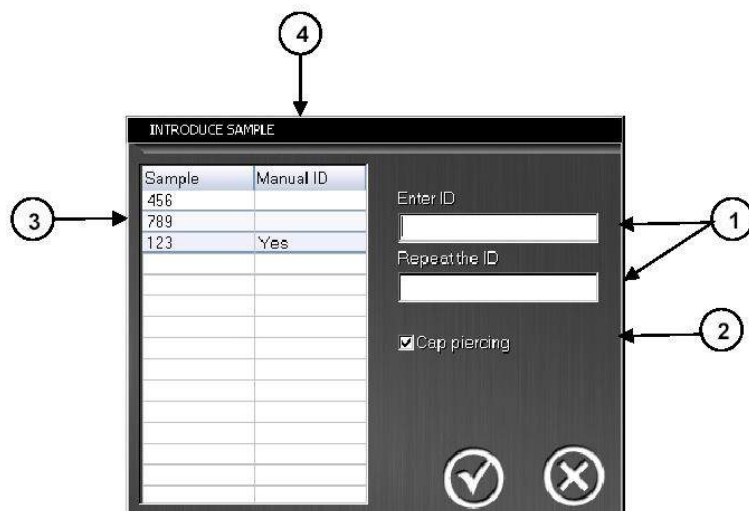

Figure 15.2. Introduce Sample Window
- Introduce the samples ID in this moment in the **Introduce Sample** window. The system forces double identification, to prevent sample ID errors (Figure 15.2, no. 1).
The configuration of the analyzer with regards to the cap piercing option can be modified in this window for this sample if so desired (Figure 15.2, no. 2).
- Select the sample ID from the list of Samples located on the left of the **Introduce Sample** window (Figure 15.2, no. 3). The samples that had been manually introduced before will be indicated (Figure 15.2, no. 4).